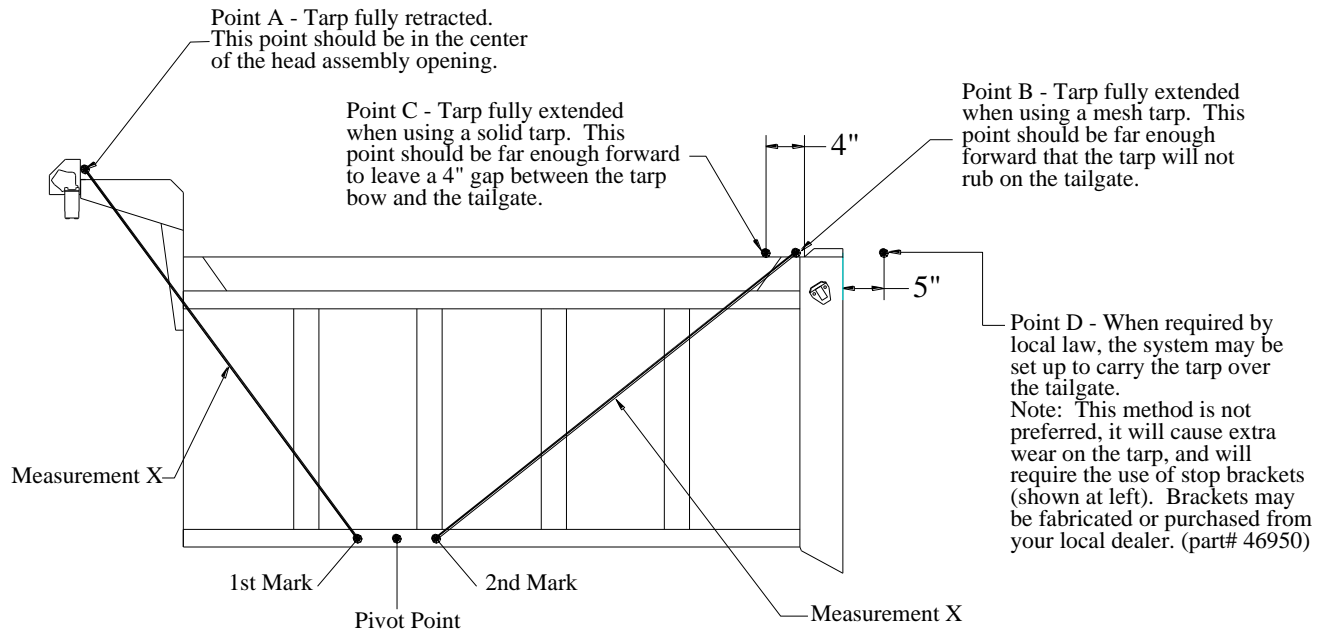

Figure 7
1. Measure from *Point A* (see figure 7 on next page) to a point on the side rail of the box that is close to where the pivot should be mounted. Mark this point and note the distance as *Measurement X*.